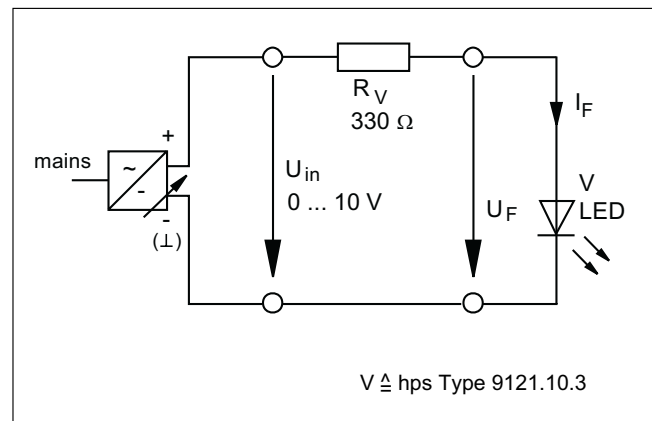

Fig. 3.1.2.3
- Set up the circuit as shown in Fig. 3.1.2.3 and adjust the DC voltage U_{in} in steps according to Table 3.1.2.1. Measure the diode voltage U_F and the diode current I_F with the multimeter and find out the light emission of the LED (none, low, middle, bright). Enter the values to be evaluated in Table 3.1.2.1.